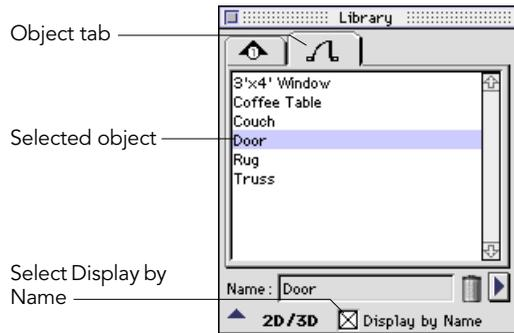

Fig. 75 Library Object selection
- Click the Object tab to bring it to the front, if necessary. Be sure "Display by Name" is selected. Then, select the name "Door" in the scrolling list (fig. 75).